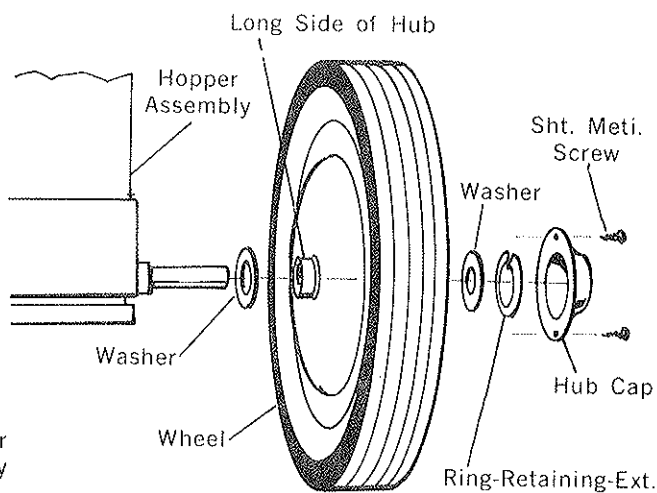

Figure 5
3. Fig. 5 - Mount both Wheels on the Hopper Assembly Axle in the sequence as shown; Washer, Wheel, Washer and Ring-Retaining-Ext.